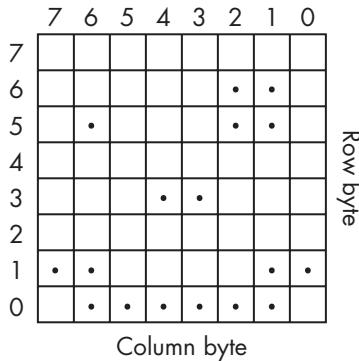

Figure 6-23: Layout for our POV display example
In this project we'll display the image on the matrix shown in Figure 6-23.
Notice how the 1s in the array resemble the lit LEDs in the layout in Figure 6-23. Our use of binary numbers makes developing an image very easy. By experimenting with `MSBFIRST` and `LSBFIRST` in the `shiftOut()` functions, you can flip each row around, as shown next. We use a `for` loop at ① to display each row in turn: